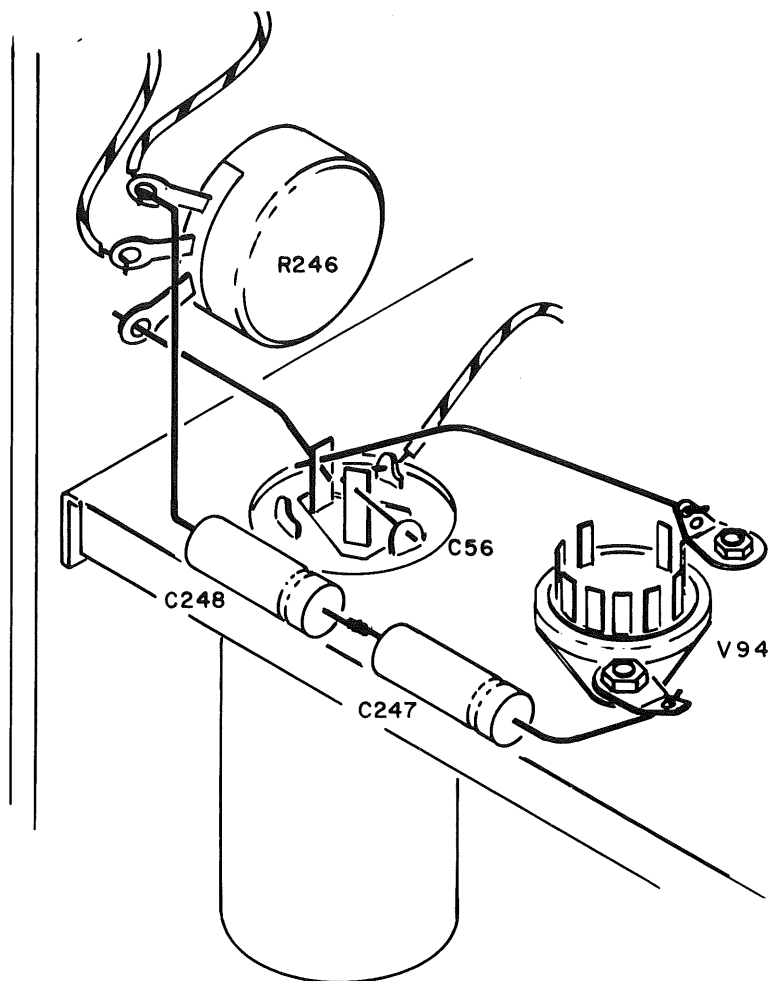

FIG. 4
- ( ) 9. Replace C56, a  $2 \times 40 \mu\text{F}$  250V chassis-mounted capacitor near V94, with a  $2 \times 10 \mu\text{F}$  250V capacitor from the kit. See Fig. 4.
- ( ) 10. Install the series combination of C247-C248, two  $2 \mu\text{F}$  150V capacitors, between R246, the AMPLITUDE potentiometer, and the ground lug on V94 tube socket. See Fig. 4.